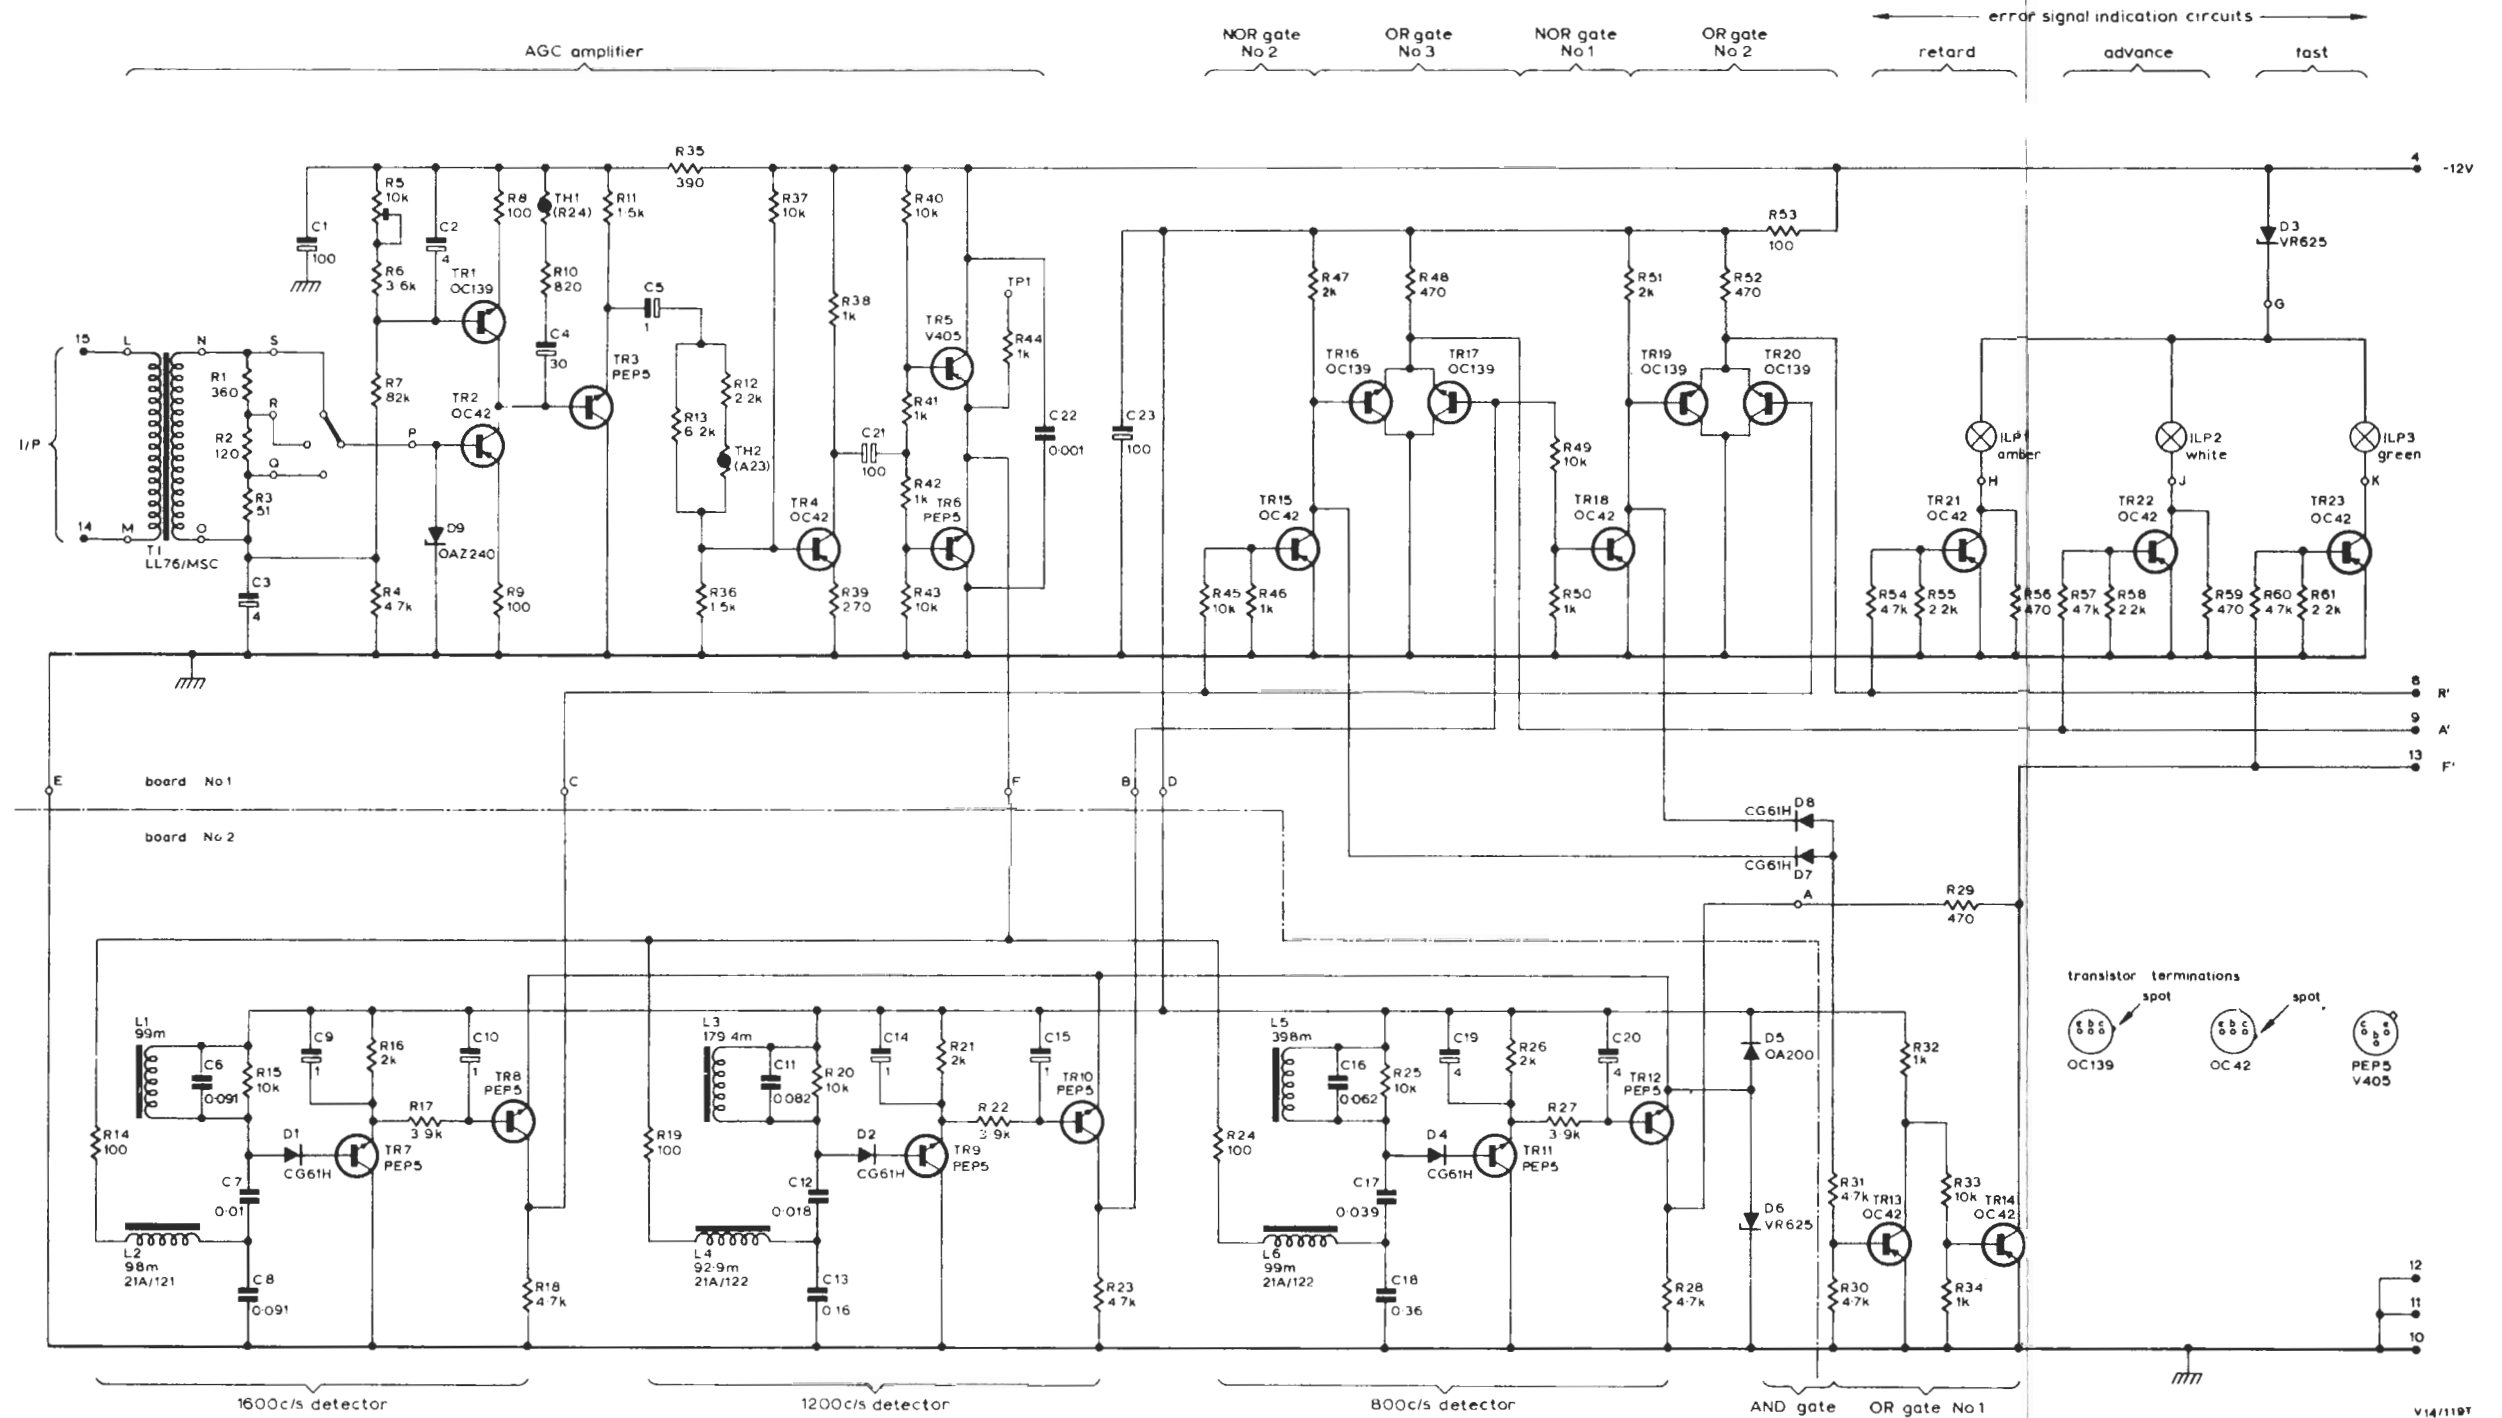

Fig. 3 Circuit of the UN17/508
1. Connect the 12-volt supply as shown in Fig. 3. Connect the input of the oscilloscope (unterminated) to test point *TP*. Connect one Tone Source to the input of the Decoder. Set the frequency to 800 Hz and the output level to 0 dB. Switch the *Input Attenuator* to -4 dB. Observe the waveform at test point *TP*. Adjust the variable resistor R5 to give a waveform